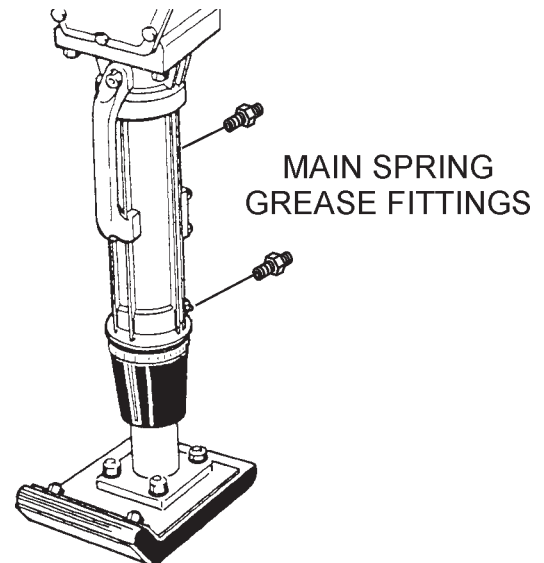

Figure 18. Grease Fittings (Main Springs)
1. There are 2 grease fittings (Figure 18) that require lubrication of the main springs. Lubricate these fittings as outlined in the maintenance section of this manual.
- The rammer *main springs* (Figure 18) should be lubricated with five shots of grease with a hand grease gun after each eight (8) hours of use.